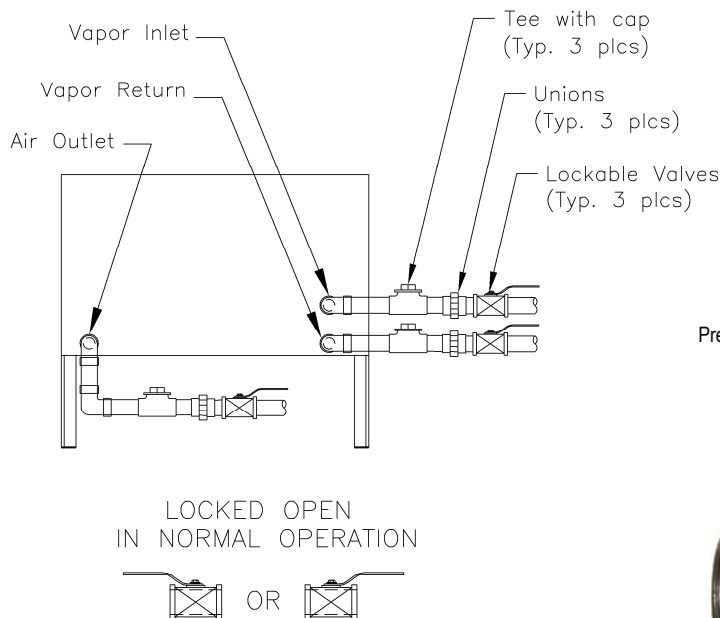

Figure 21: Processor Inlets & Outlets
- See Figure 21.
3. Close the ball valves between the *Processor* and the vents. See Figure 21.